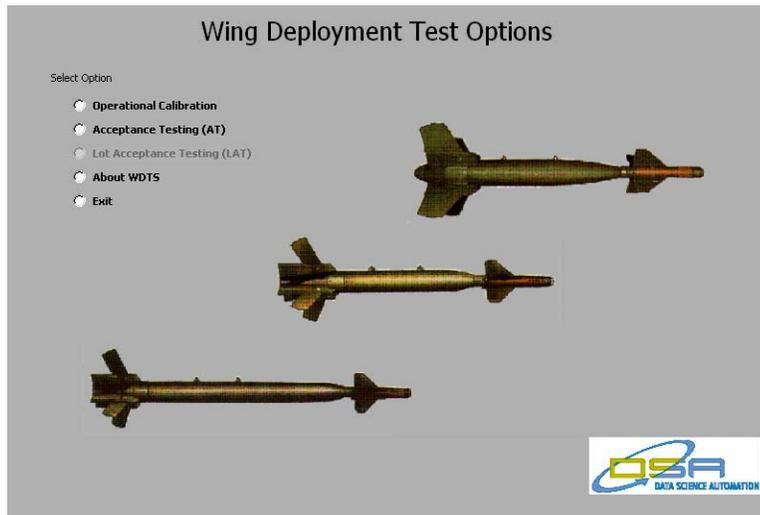

Figure 1. Main Startup Screen
Data Science Automation, Inc. (DSA) used National Instruments (NI) LabVIEW software to create the application (Figure 1). DSA utilized the LabVIEW State Diagram Toolkit to quickly create the main state machine architecture. The LabVIEW State Diagram Toolkit makes handling the evolving requirements easy by providing a way that allows the developer to easily visualize and modify the state transition flow.